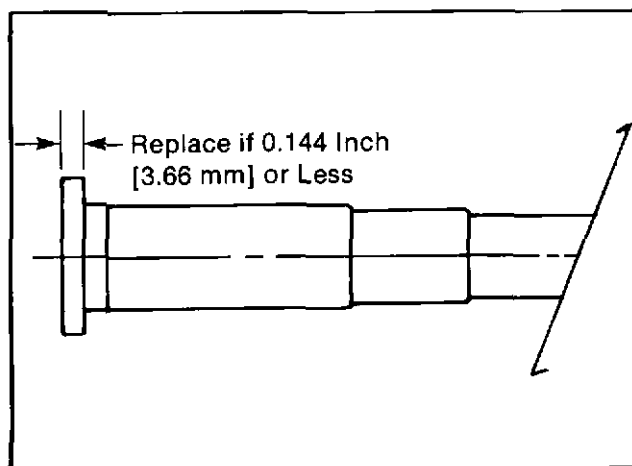

Fig. 2-12. Injector plunger flange thickness
- a. Replace the plunger and barrel assembly if the plunger coupling flange is less than 0.144 inch [3.66 mm] thick, Fig. 2-12.